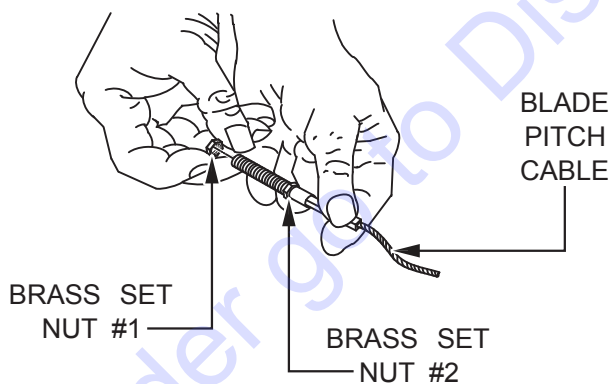

**Figure 10. Blade Pitch Cable Adjustment (Quick Pitch™ Handle)**
- For trowels equipped with a **Quick Pitch™** handle (QXHC), squeeze the trigger lock and push the T-handle towards the engine to release tension on the blade pitch cable. See Figure 10.